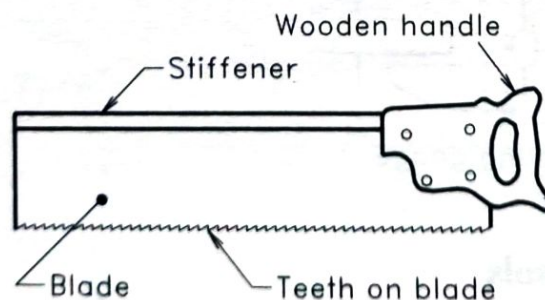

FIGURE 6.5
2. *Tenon saw (Back saw)*: This saw is used for short straight cuts (Figure 6.5). It has a parallel blade of 25 to 40 cm length and 6 to 10 cm width. The number of teeth per cm length ranges from 5 to 8. In order to avoid bending of blade during sawing, the blade is provided with a reinforcing strip at the top.